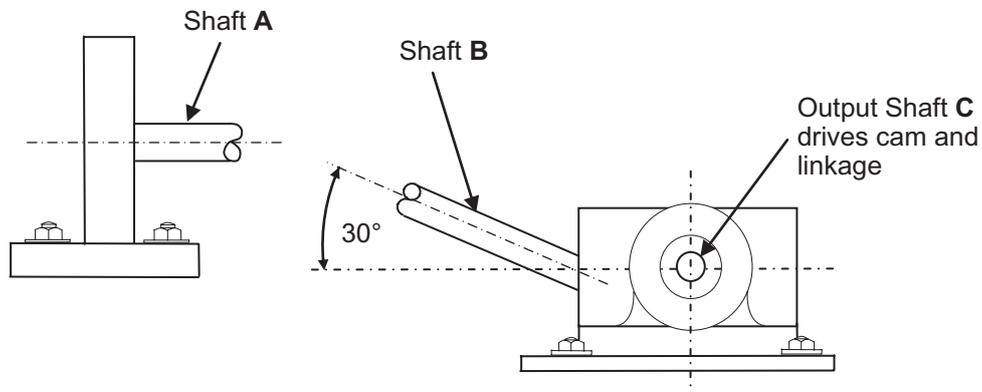

Fig. 3(e)(i)
- A means of providing a positive drive from shaft **A** to shaft **B** while maintaining a constant speed. Show how your design is attached to the shafts (making reference to **Fig. 3(e)(i)** below).
- A gearbox design (making reference to **Fig. 3(e)(ii)** below), using only gears with teeth between 20 and 100 that will provide a suitable output speed to move the support bracket of the car 1.6 metres in 20 seconds with one rotation per minute of the output shaft moving the bracket 20 mm.